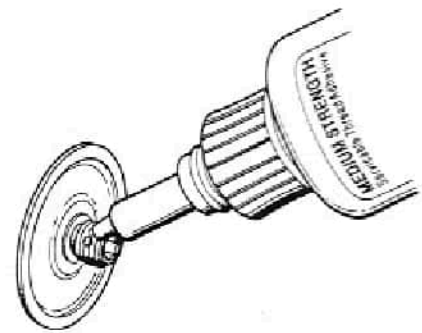

Fig. 8 - Thread Adhesive Application
1. Install the two swivel O-rings(30) onto their respective grooved sealing surfaces on the swivel stem of the piston cap(29), and set the piston cap aside.
2. Install the piston diaphragm(13) over the threaded stem of the diaphragm retainer(12) and into the groove at the base of the stem.
3. Apply only one small drop of medium strength (serviceable) thread adhesive to the center threads of the diaphragm retainer (see Fig. 8). Immediately mate the diaphragm retainer into the head of the piston(15) and turn clockwise by hand until snug.